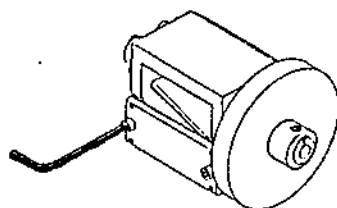

FIGURE 1
Step 3. Using a 7/64" hex wrench, loosen and remove the two #6-32 X 3/8" socket head cap screws by turning the wrench counter-clockwise. Please see Figures 1 and 2.